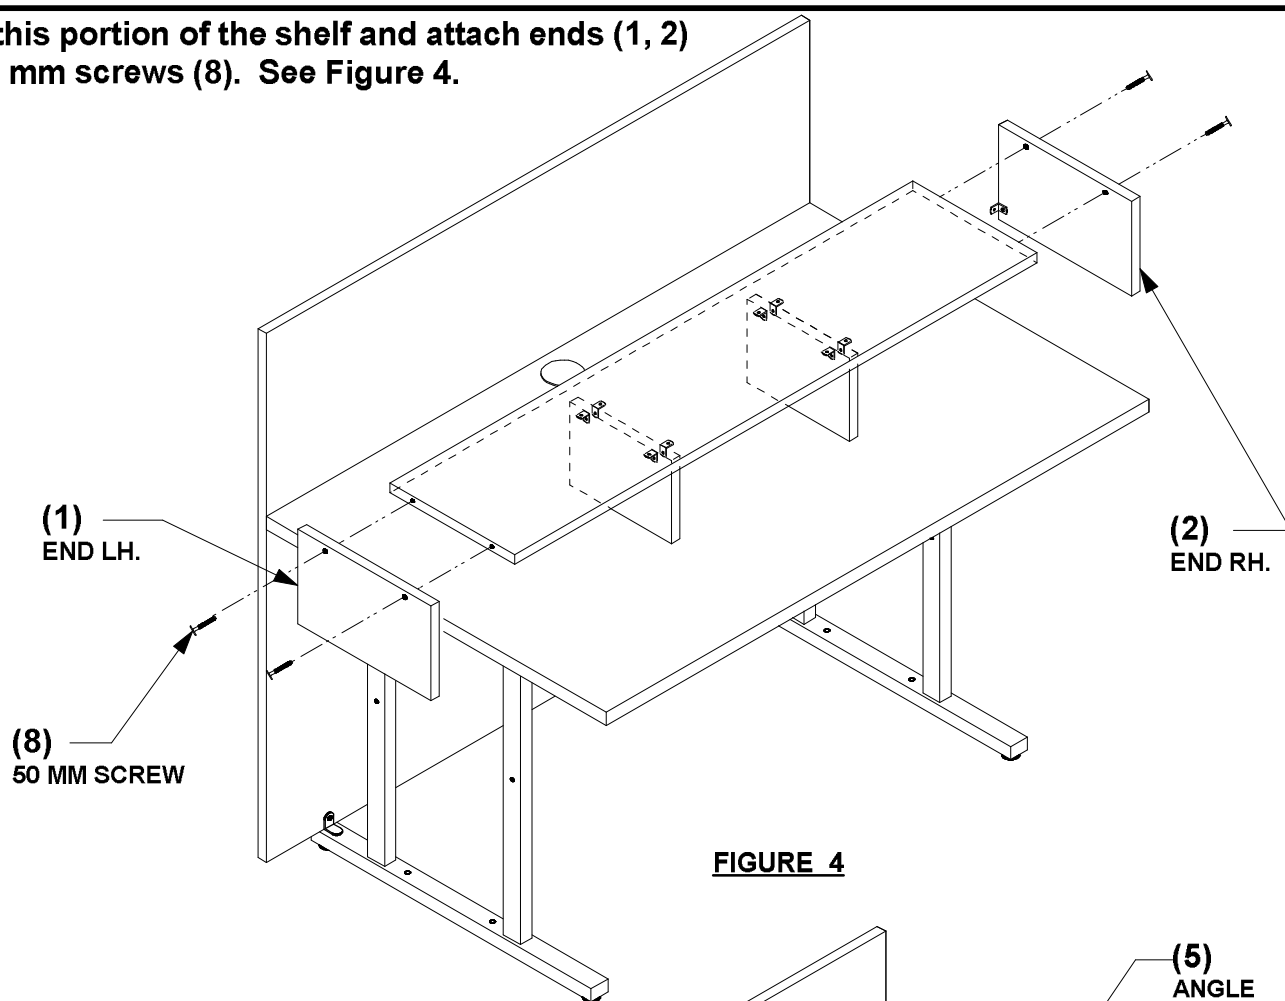

FIGURE 4
4. Upright this portion of the shelf and attach ends (1, 2) using 50 mm screws (8). See Figure 4.